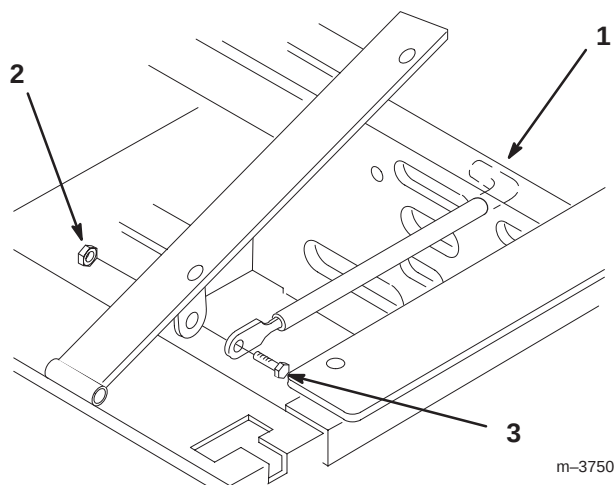

Figure 3
1. Tilt the seat up. Remove the locknut (5/16 in.) from bolt attaching seat retaining rod to seat frame (Fig. 3).
2. Remove retaining rod from seat and insert the **L** shaped end of the rod into the hole directly above the left-side hydraulic pump (Fig. 3).
3. Place the seat retaining rod to the outside of the mounting tab of the seat frame and secure with a bolt (5/16 x 1 in.) bolt and locknut 5/16 in. (Fig. 3).